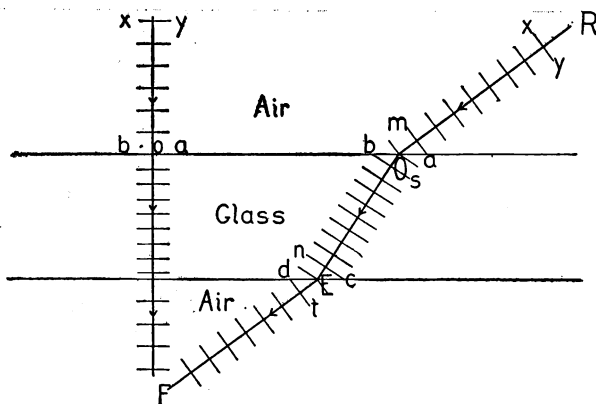

FIG. 77
**113. Explanation of Refraction.** Let the line  $xy$  (Fig. 77) represent a portion of a wave advancing through the air in the direc-